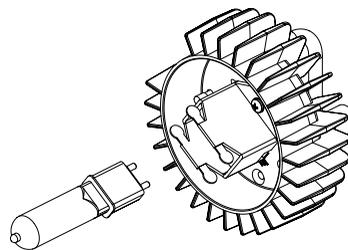

Figure B-2 Installing the lamp
8. Holding the new lamp by its base, gently press the two base pins straight into the lamp socket until the lamp is firmly seated as shown in Figure B-2.